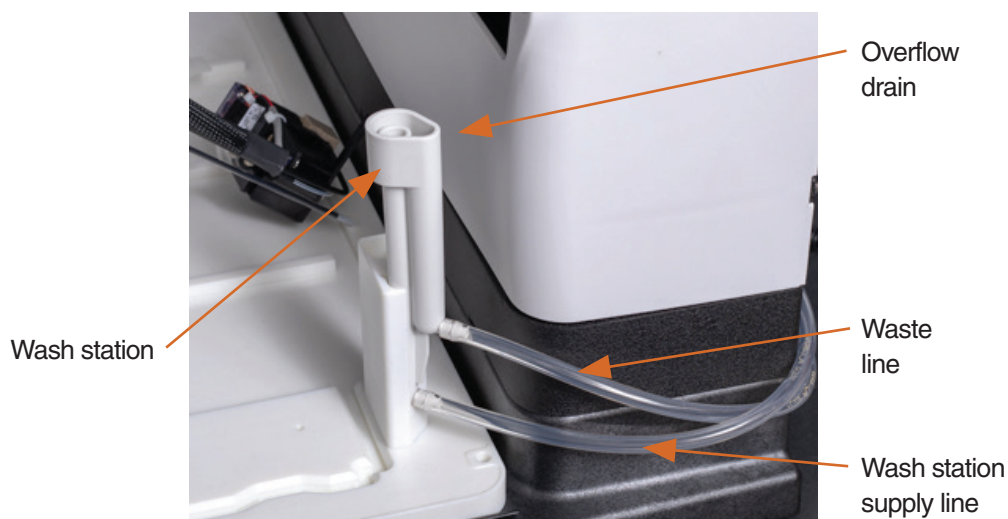

Figure 2-19 AutoSampler Module wash well with tubing attached (top tube is waste to port #2 while the bottom tube is supply port #3)
6. Mount the wash well by placing it into the receptacle located on the right-rear portion of the AutoSampler Module bed (Figure 2-19).